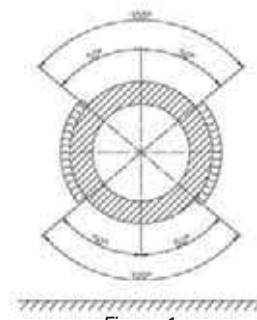

Figure 1
- Figure 1 shows the areas of the axle in round cross-section where welding can be carried out.